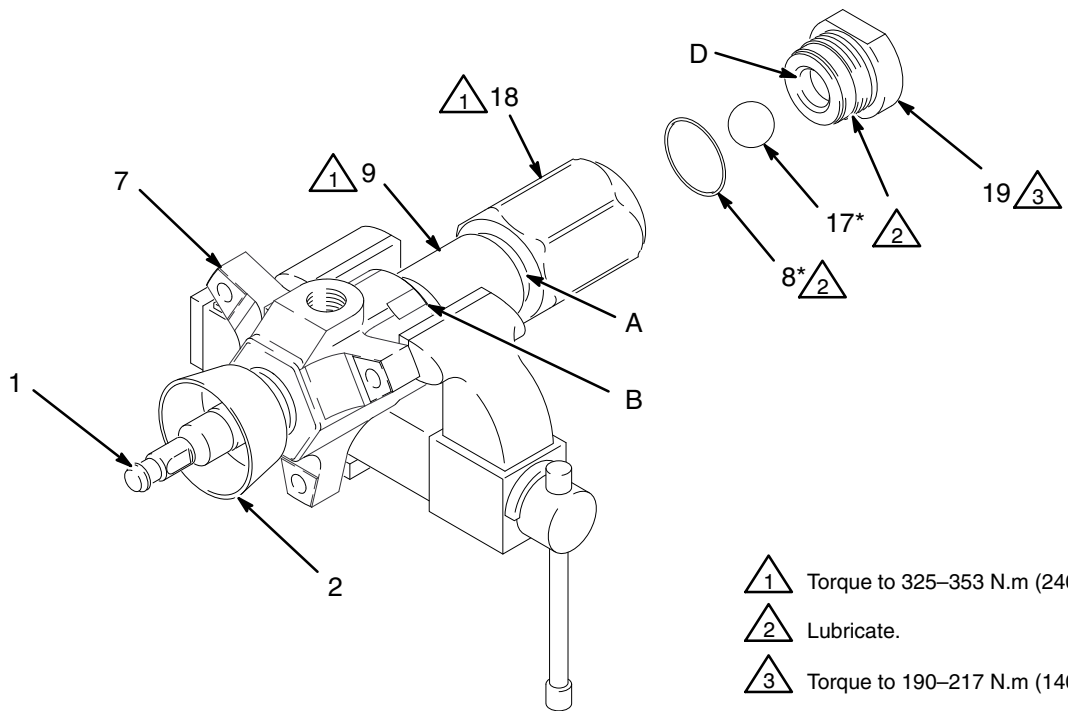

Fig. 5
1. Place the pump lengthwise in a large vise, with the jaws on the outlet housing (7) as shown in Fig. 5. Using the supplied wrench (110), loosen, but do not remove, the packing nut (2).
2. Apply a pipe wrench to the flats of the intake valve (19). Unscrew the intake valve (19) from the intake housing (18). Be careful to catch the intake ball (17) as you remove the intake valve, so that it does not fall and suffer damage. Remove the seal (8) from the intake valve. Inspect the ball and the seat (D) of the intake valve for wear or damage.
3. Apply a pipe wrench to the hex of the valve housing (18). The pump assembly may separate at joint A or joint B.
5. Install the packing nut (2) loosely into the outlet housing (7).
6. Lubricate the piston packings. Slide the displacement rod (1) and piston assembly down into the cylinder (9). The cylinder is symmetrical, so either end may face up. Use a rubber mallet to drive the rod into the cylinder, until the piston seat housing (16) is near the bottom of the cylinder.
7. Install the seal (8*) on the top of the cylinder (9). Lubricate the seal and the top threads of the cylinder.
8. Place the outlet housing (7) in a vise, as shown in Fig. 5. Slide the displacement rod (1) up into the outlet housing, then screw the cylinder (9) into the outlet housing handtight. The threads will engage easily until the seal (8*) contacts the sealing surface of the outlet housing. The top of the rod will protrude from the packing nut (2).
10. Install the seal (8*) on the intake valve (19). Lubricate the seal and the threads of the intake valve. Place the intake ball (17*) in the intake housing (18), then screw the intake valve into the intake housing handtight. The threads will engage easily until the seal contacts the sealing surface of the intake housing.
11. Using a pipe wrench, torque the intake housing (18) to 325–353 N.m (240–260 ft-lb). This will torque both cylinder joints (A and B). See Fig. 5.
12. Using a pipe wrench, torque the intake valve (19) to 190–217 N.m (140–150 ft-lb). See Fig. 5.
13. Torque the packing nut (2) to 136–149 N.m (100–110 ft-lb).